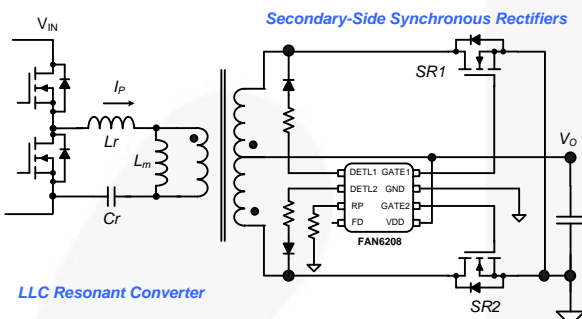
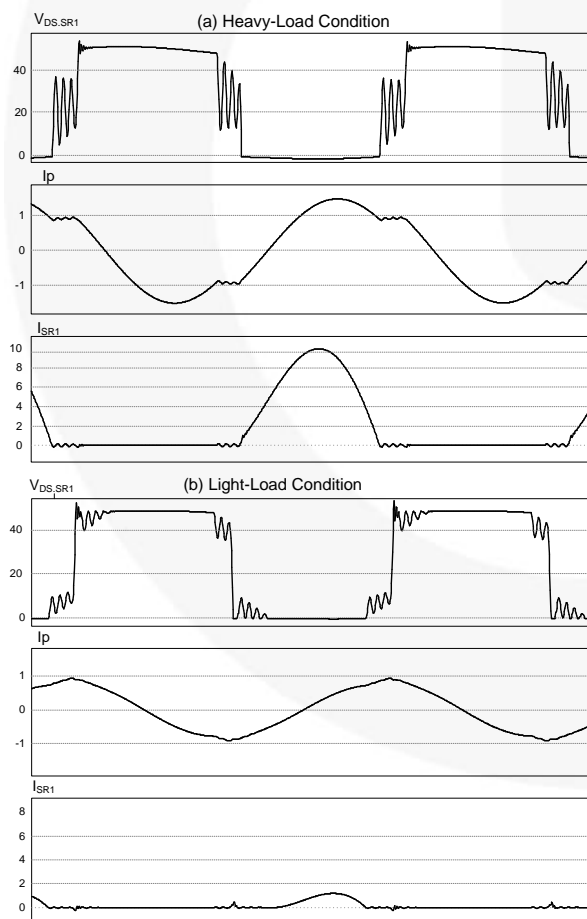
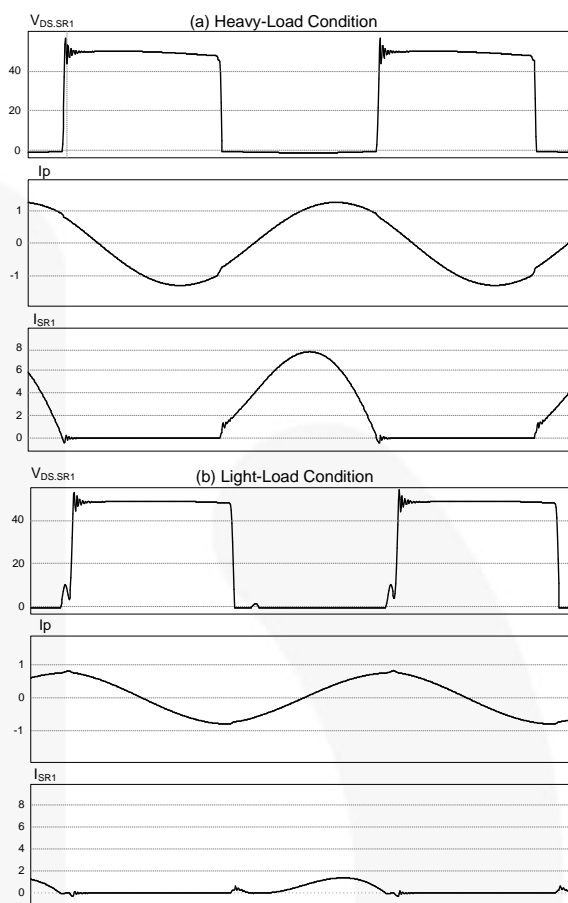
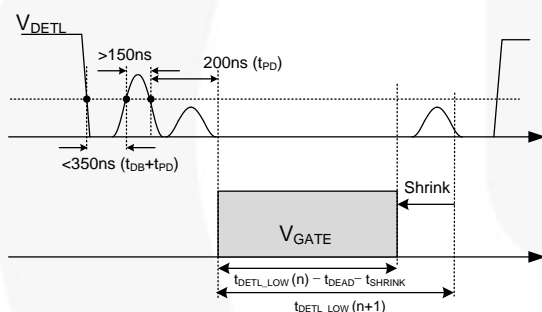

Figure 7. Simplified Schematic of LLC Converter
Figure 8. Key Waveforms of LLC Resonant Converter for Below Resonance Operation
Figure 9. Key Waveforms of LLC Resonant Converter for Above Resonance Operation
Figure 15. Gate Shrink by DETL Voltage Ringing Around Zero
FAN6208 is a secondary-side synchronous rectifier controller for LLC or LC resonant converters that drive two synchronous rectifier MOSFETs. Figure 7 is the simplified circuit diagram of an LLC converter. The FAN6208 determines SR MOSFET turn-on/off timing by detecting the drain-to-source voltage of each SR MOSFET. The key waveforms for LLC resonant converter for below resonance and above resonance are shown in Figure 8 and Figure 9, respectively.
- (c) When the DETL voltage has ringing around zero. As depicted in Figure 8, the drain voltage of SR has ringing around zero at light-load condition after the switching transition of the primary-side switches. When DETL voltage rises above 2 V within 350 ns after DETL voltage drops to zero and stays above 2 V longer than 150 ns, the gate is shrunk by 1.2 μ s ($t_{SHRINK-RNG}$), as shown in Figure 15.